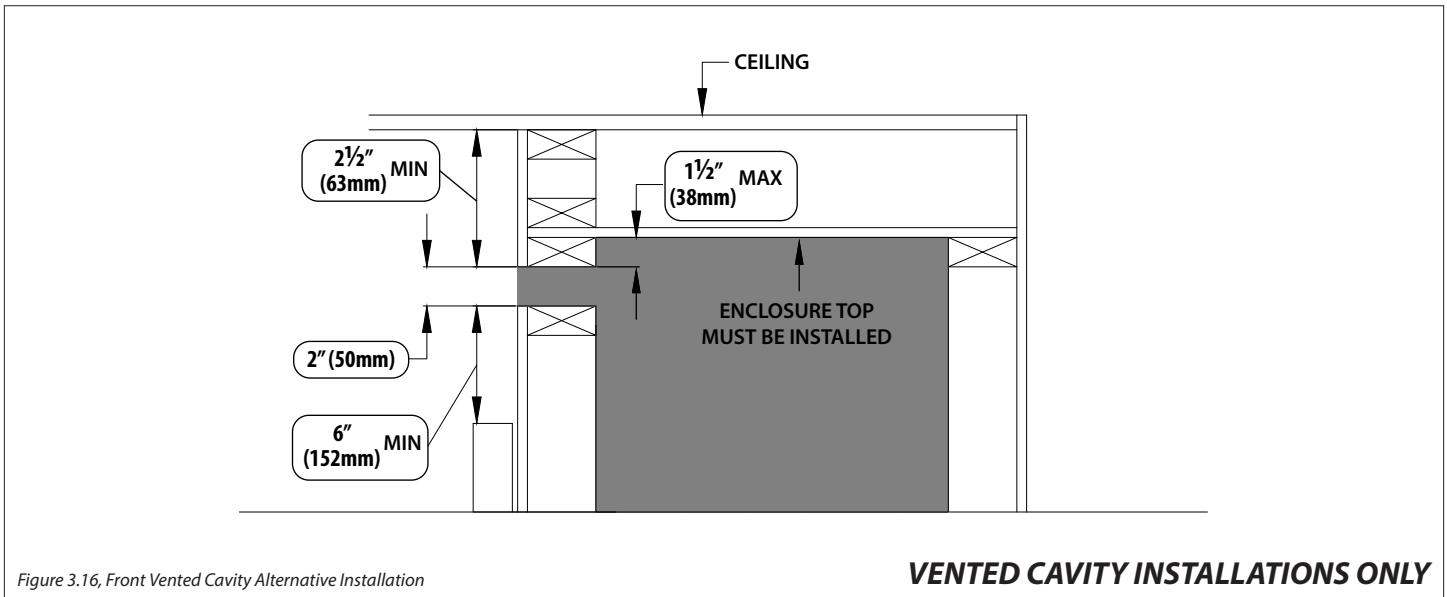

Figure 3.16, Front Vented Cavity Alternative Installation
- Figure 3.16 shows an alternative installation method where you cap off the fireplace cavity so the air discharge opening can be located further down the fireplace chamber. 1-1/2" (38mm) is the maximum drop for framing the air discharge opening to the fireplace enclosure top. This avoids trapping heat in the upper areas of the vented cavity enclosure. Framing the outlet any lower than 1-1/2" (38mm) will cause over heating create a fire hazard. If you cap the fireplace cavity off, it cannot have any vent pipe running through the top without a ceiling firestop. This installation method can alleviate any possible concerns with paint discoloration from heat or dust.